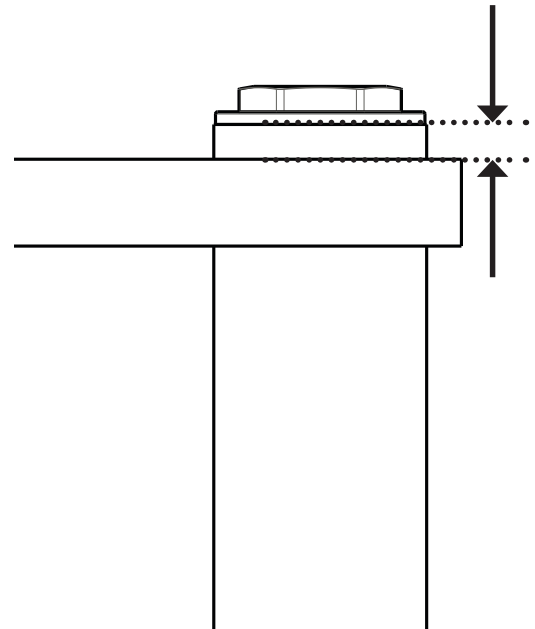

Fig. 21: Set to the height measured when removing the fork in the "Fork Leg Removal" section.
1. Use the manufacturer's workshop manual to reinstall the fork leg and other removed components on the vehicle. Reference the height you measured when removing the fork in the "Fork Leg Removal" section (Fig. 21) to set the same distance between the fork leg height and the triple clamp. Refer to the manufacturer's workshop manual when setting the fork height in the triple clamps.